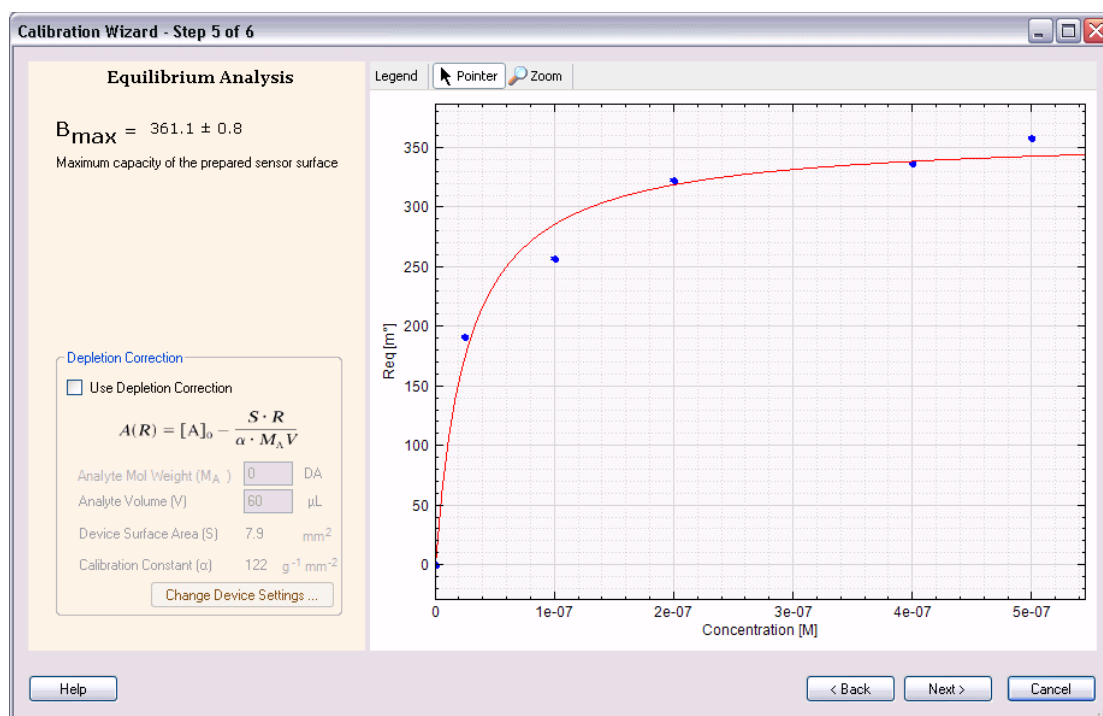

Figure 6.9 – The Equilibrium analysis for a Calibration
Step 4 is the Equilibrium fit for the Calibration project. Figure 6.9 shows the fit to the data.